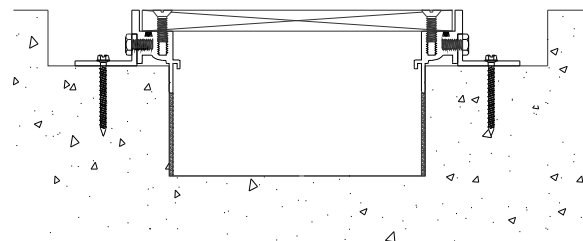

Figure 7
STEP 9. Place a temporary wooden cover (plywood is recommended) into the frame, attaching it to the frame as shown in Figure 7. This procedure is recommended to protect the cover plate from concrete splatter during the pouring and finishing of the concrete.